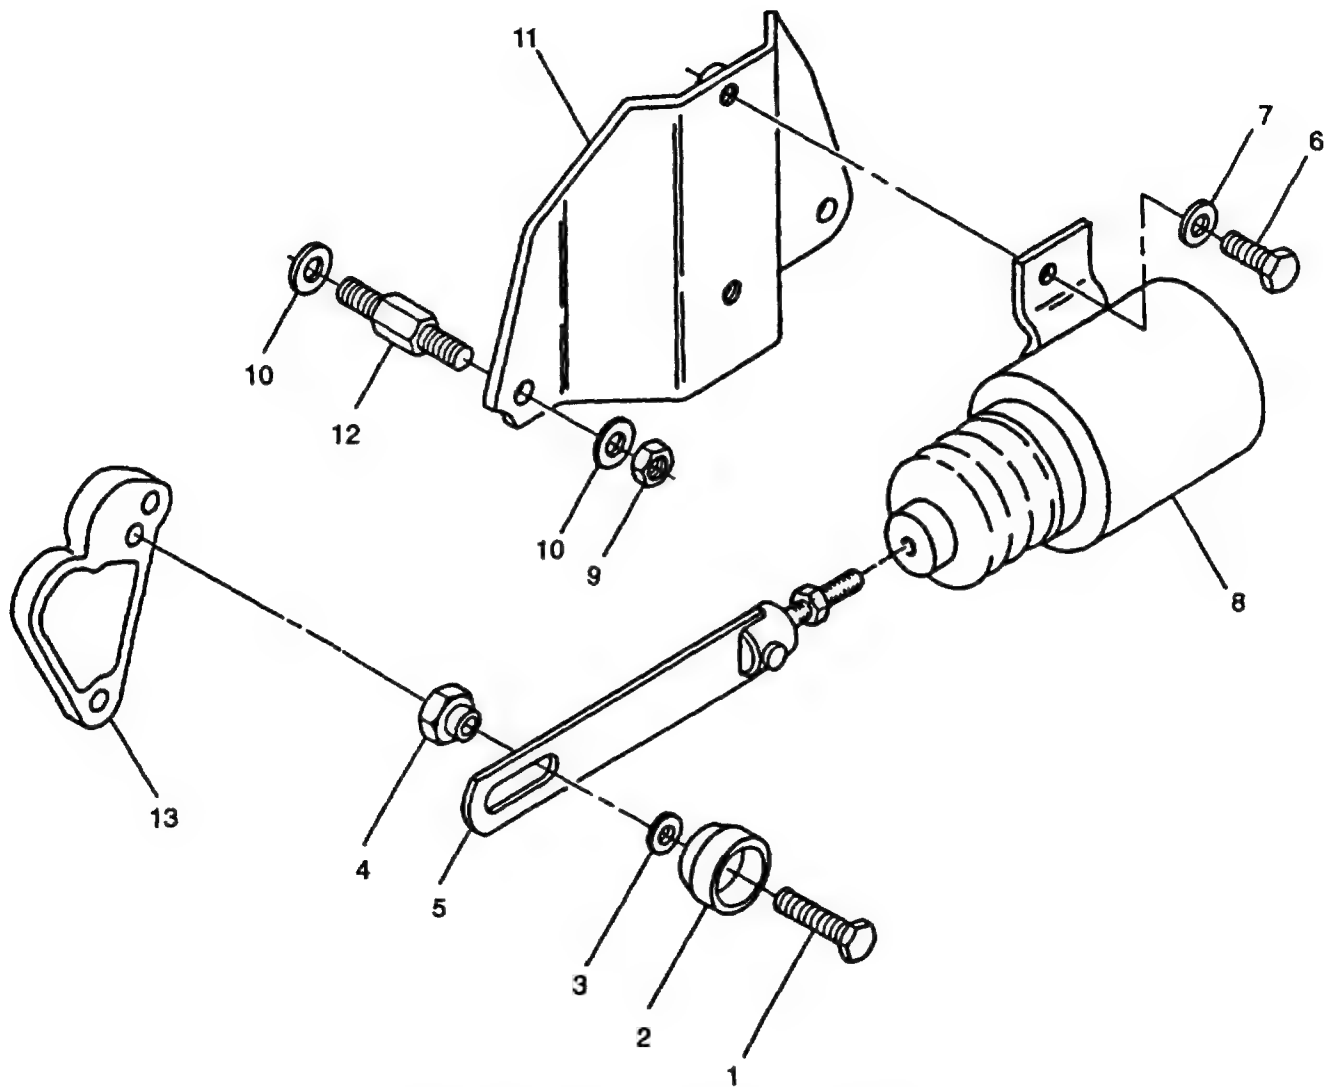

FIGURE 3-14. Fuel Solenoid Installation
- a. Tag and disconnect electrical leads from solenoid (8, **FIGURE 3-14**).
- b. Remove capscrew (1), knob (2), washer (3), and retaining nut (4) securing linkage (5) to lever (13).
- c. Remove two capscrews (6) and washers (7) securing solenoid (8) to bracket (11); remove solenoid (8) with linkage (5).
- d. Count number of threads exposed prior to unscrewing linkage (5). This will aid installation and adjustment.
- e. If damaged or if replacing solenoid, loosen locknut on linkage (5) and unscrew linkage from solenoid (8).
- f. If damaged, remove two nuts (9) and washers (10) securing bracket (11) to engine; remove bracket (11).
- g. If damaged, remove two studs (12) and washers (10) from engine block.
- If removed, install two studs (12, **FIGURE 3-14**) and washers (10) in engine block.
- If removed, position bracket (11) on studs (12) and secure with two nuts (9) and washers (10).
- If removed, screw linkage (5) into solenoid (8) leaving number of threads exposed as noted during removal. Tighten linkage locknut.
- Position solenoid (8) with linkage (5) on bracket (11) and secure with two cap screws (6) and washers (7).
- Connect linkage (5) to lever (13) using cap screw (1), knob (2), washer (3), and retaining nut (4).
- f. Connect electrical leads to solenoid (8) as tagged during removal. Remove tags.